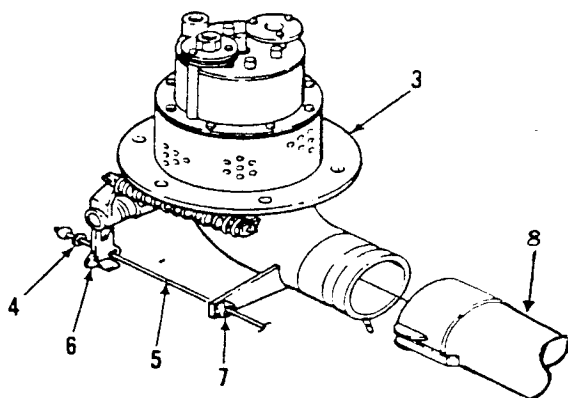
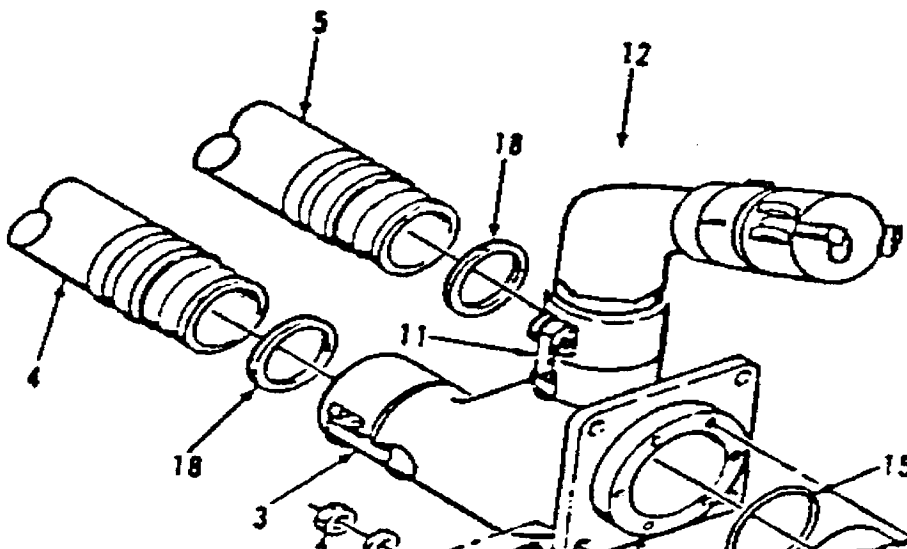

Figure 4-5 Tank, Bottom Loading Valve Cable Connection.
Figure 4-10 Interconnecting Hose Assembly.
(d) While tank is suspended in the air, route cable assembly (5, Figure 4-5) through guide (7) and connect cable assembly (5) to the tank's bottom loading valve control lever (6) and temporarily secure for safety. Other end will be connected at a later time.
(2) Position a suitable container or drip pan under point where hose is to be disconnected.
(3) Hose assembly (4, Figure 4-10) is used to connect the tank to the Dispensing Unit Fuel Manifold.
(a) Detach coupling, on hose (4), from tank bottom loading valve (3, Figure 4-5) and coupling (3, Figure 4-10) from dispensing unit fuel manifold (12 Figure 4-10), remove hose.
(1) Install hose assembly (4, Figure 4-10) by attaching coupling to dispensing unit fuel manifold at one end and the tank bottom loading valve port at the other end.